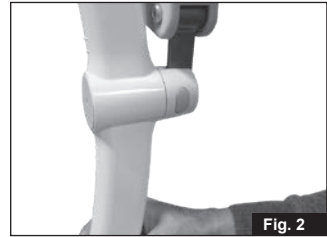

Fig. 2
2. Insert the lifting hanger in the slot on the side of the lifting hanger's top cover. (fig. 2).